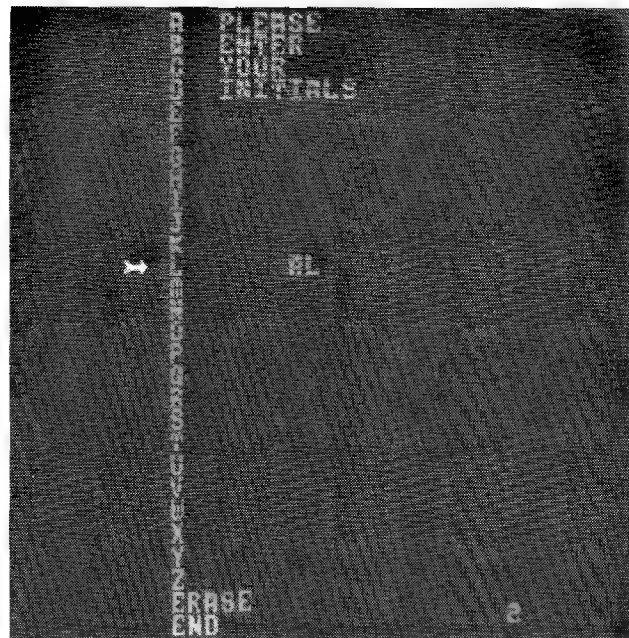

Figure 3-11 High Score/Initial Mode
16. **HIGH SCORE/INITIAL MODE:** If your score was high enough to become one of the ten best scores, the game will go into the High Score/Initial mode immediately after the above display. If your score was not high enough to cause the game to go into the High Score/Initial mode, it will either go to the Attract mode (if there are no more credits left in its memory) or into the Ready-To-Play mode (if there are still credits left in its memory). In the High Score/Initial mode the game gives a display which looks like that shown in Figure 3-11.